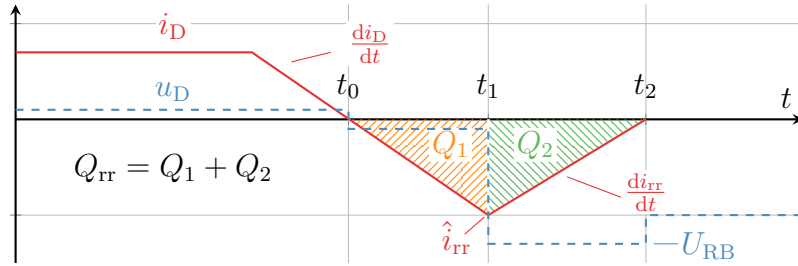

Figure 2.2.2: Turn-off behavior of a fast silicon diode.
2.2.5 Beside the conduction losses, also switching losses need to be considered in practice. In Fig. 2.2.2 the voltage and current waveforms are visualized for the turn-off event of a diode (reverse recovery effect). Therefore, calculate the turn-off losses for a fast diode with a commutation inductivity loop of $L_c = 500$ nH. The peak reverse recovery current is $\hat{i}_{rr} = 4$ A and the reverse recovery time is $t_{rr} = t_2 - t_0 = 46.6$ ns.
Switching losses occur when the diode voltage or current is not zero. In Fig. 2.2.2 the voltage and current waveforms are shown. The voltage u_D is for the interval t_0 until t_1 small and, therefore, the switching losses. At the time step t_1 the diode is blocking and the reverse breakdown voltage U_{RB} applies. Due to this much bigger value, the switching losses increases significantly, resulting that only the interval between t_1 and t_2 is responsible for the switching losses. Hence, the losses are calculated as follows
The equivalent circuit diagram of the diode switch-off event is shown in Sol.-Fig. 2.2.2. The current $i_D(t)$ is dependent on the voltage U_2 by:
Solution Figure 2.2.2: Equivalent circuit diagram of the diode switch-off event.
Reverse breakdown voltage is determined from the ECD (Sol.-Fig. 2.2.2) with the second Kirchhoff's law with: